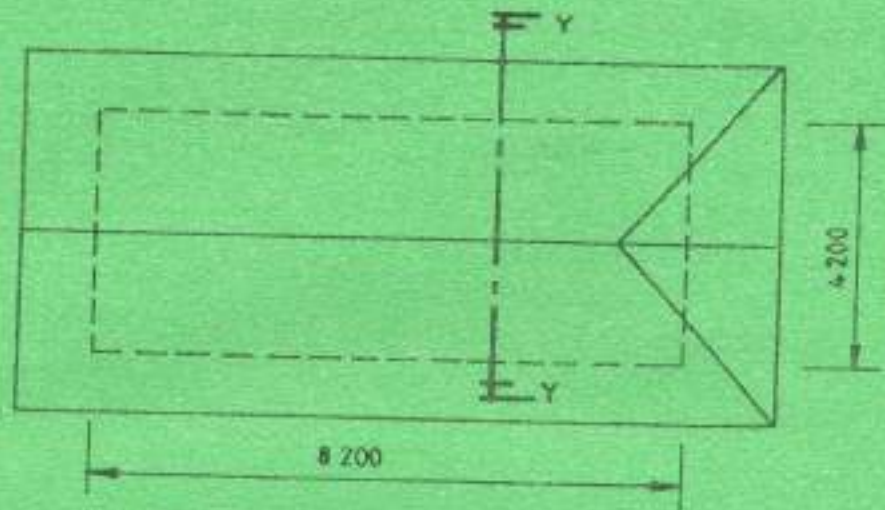

Fig. 1
6. Figure 1 shows a line diagram of a timber roof to be constructed over a stone wall.